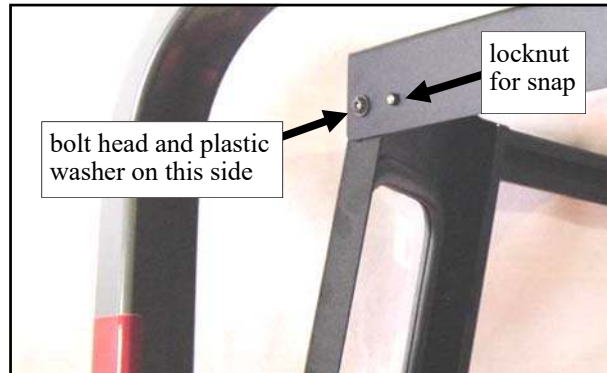

Fig. 1.2 (view from right side of tractor)
1.2 Per fig. 1.2 (and with assistance), install the rear cross brace oriented so snaps for the rear curtain are inside the cab. Use the following hardware to attach the brace to the top rear of each side frame: one 5/16" x 3/4" long button head bolt, one plastic washer, and one locknut. The head of the bolt and the plastic sealing washer are to be on the outboard/rear side of the cab enclosure. Repeat for right side frame attachment then tighten both bolts.